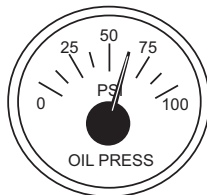

Figure 52. Oil Pressure Gauge
9. The **engine oil pressure gauge** (Figure 52) will indicate the oil pressure of the engine. Under normal operating conditions the oil pressure should be approximately 50 psi (345 kPa). When starting the generator the oil pressure may read a little higher, but after the engine warms up the oil pressure should return to the correct pressure range.